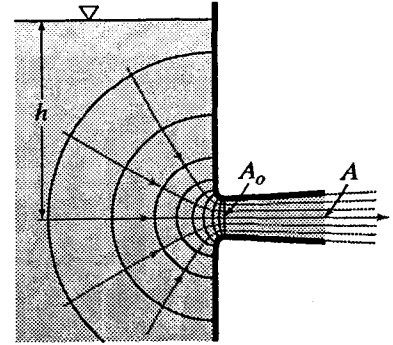

Figure X11.6.5
11.6.7 For the rounded entrance and tube flowing full as in Fig. X11.6.5,  $C_c = 1.0$  for both the throat and the exit, and thus  $C_v = C_d$  for both sections. For the throat, assume the value of  $C_v$  as given for Fig. 11.16a, and assume that for the tube as a whole the discharge coefficient applied to the exit end is 0.72. Find the velocity at the throat and the pressure head at the throat if  $h = 6$  ft. Compare your answer with Exer. 11.6.5, which neglected friction.